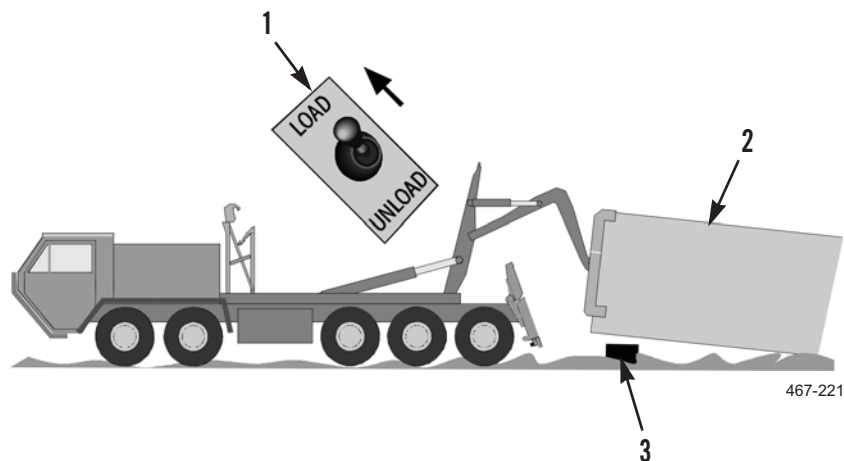

Figure 17. Container Raised from Supports.
2. With engine at idling speed, set joystick (Figure 17, Item 1) to LOAD. As soon as front of container (Figure 17, Item 2) is lifted from supports (Figure 17, Item 3), release joystick.